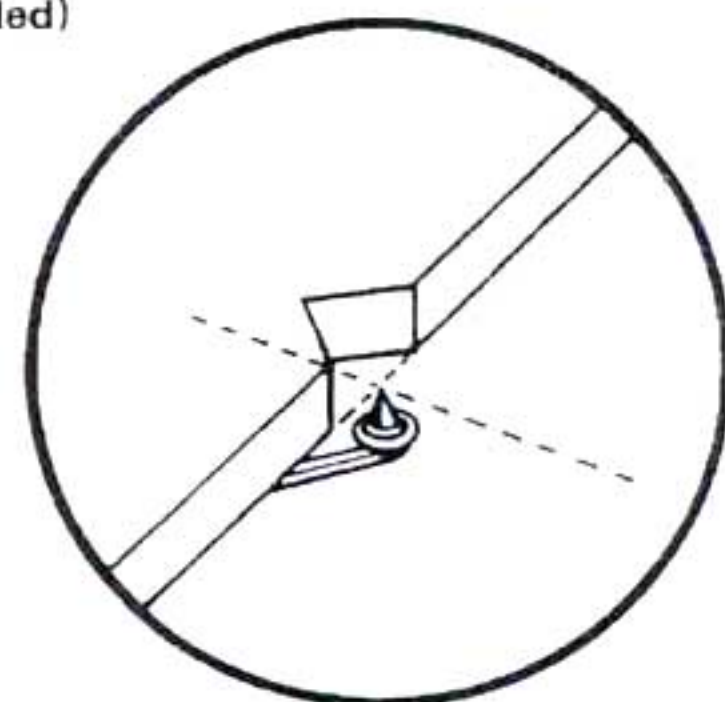

Figure 5
- the main axis and the long sides of the cartridge are parallel with the lines on top of the jig (see Figure 5).